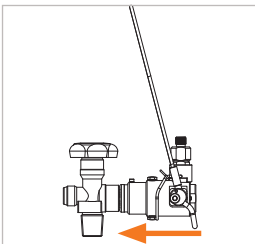

Figure 9
- ▶ Insert the connector loosely and straight into the cylinder valve until a noticeable seal contact has been established (*Figure 9*). Doing so will prevent any damage to the front seal caused by any sharp edges on the cylinder valve and ensure a correct connection.